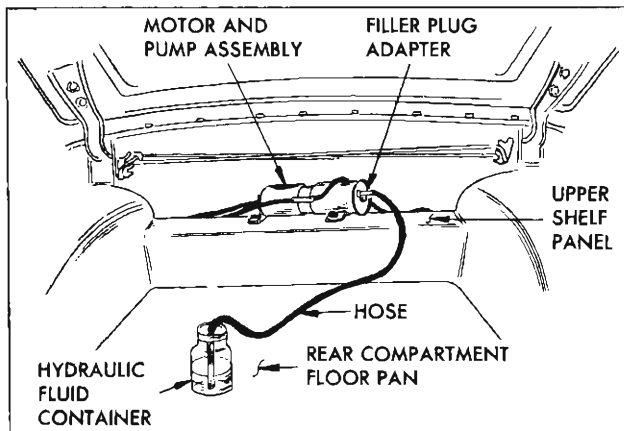

Fig. 132—Filling Reservoir
d. Install opposite end of hose into a container of G.M. Hydraulic Brake Fluid Super #11 or equivalent. See Fig. 132.